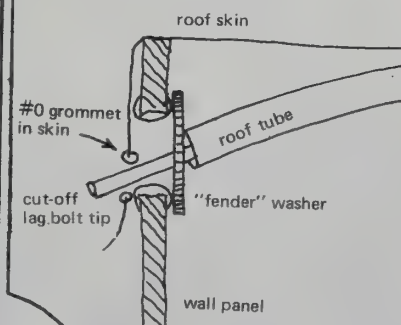
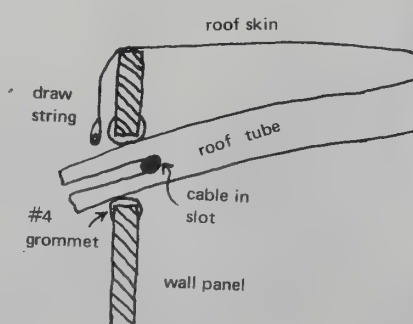

Fig. 1
Fig. 2
The best material for the roof tubes is aluminum alloy 6061T6. Electrical conduit will not work. For domes up to 12 feet, use 5/8 outside diameter tube with .060 wall. Larger domes need larger tubes. Our 40 footer used 20 pieces of 1 1/2" tube with about a 1/8" wall. Tubes should be cut somewhat longer than the proposed diameter of the dome so that they will bulge up into a dome shape when squeezed by the cable to the diameter of the wall circle. The amount of bulge should be sufficient to shed snow and not pop inwards under wind load, but should not be so great as to "jello" back and forth. Trim a little at a time off the tubes until the desired bulge is reached. A little trimming makes a great difference, so go easy. The tubes are drilled or slotted at the tips to receive a 1/8 aircraft cable. The cable is indoors resting on the wall. The tube tips project through the walls about one inch. Though there are other ways to do it, the one shown in the illustration works well and is easy to do. Two tip details are shown in fig. 1 & 2. Small domes with stiff walls don't need a cable and can use a tip detail as in fig. 1.
The roof skin can be canvas, vinyl, or polyethylene (if you don't care about long life). For permanent use, make the skin from a premium coated fabric such as Hypalon or Acrilan. Fabrics and vinyl will be cut into gores patterned on the actual assembled roof struts. Fabric should be sewn on an industrial sewing machine using dacron tent thread. Vinyl should be 20 mil sun resistant grade electronically sealed by a professional shop. It might have to be sealed in short straight lines, but this will work out all right because the curve is not really very curved. All skins should be patterned so that they overlap the top edge of the wall panels at least four inches. The skin can be fastened to the roof tube tips in several ways. One is to have a drawstring running in a tunnel all the way around the skin. (Fig. 2&3) Another way is to have large grommets in the skin that will fit over the tips. The area around the grommets should be reinforced. Smaller grommets can be used if the tube tip is first made smaller by plugging it with a dowel, screwing a lag bolt into the dowel, and then cutting the bolt head off, leaving a small diameter tip protruding from the tip of the tube. (Fig. 1) In any case, the roof should be a tight fit. Remember that many skin materials will shrink, expand and contract as the weather changes. For this reason, the roof skin should be fitted at the temperature most likely to be encountered by the structure. If the Paradome will be used under a wide variety of conditions, the drawstring is probably best. A polyethylene roof can be made in one piece by cutting a circle and then cutting a pie out of it sufficient to make it nearly conform to the tube contour. Then cut another smaller bit out near the hub to make it lie down there. Poly can be taped together at the seam. It is best to use grommets with poly. Apply them through a tape reinforcement. Poly can also be held down with little ball-and-choker doo-dads available at the lumber yards that sell it.
- 1/2" reinforcing steel goes around footing; it should be suspended above ground (tie it with wire to rocks). (See fig. 2)